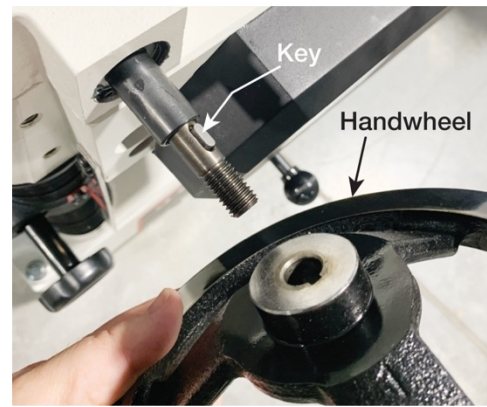

Figure 30
2. Remove the handwheel by removing hex nut and washer and sliding handwheel off of worm gear shaft (see Figure 30). Make sure the key in the worm gear shaft is not lost.